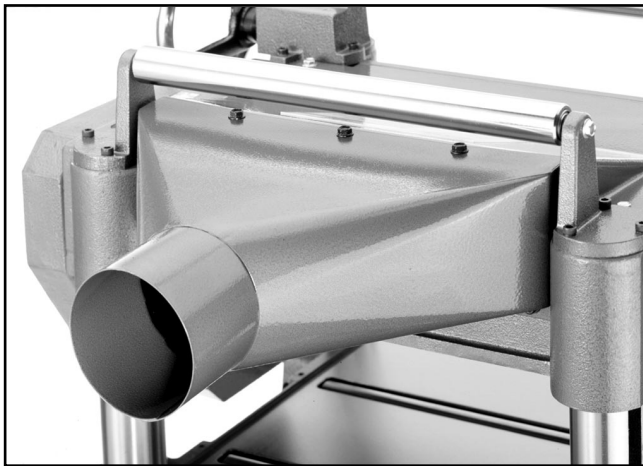

Figure 7. Dust port assembly.
2. Use three (3) M6 - 1.0 x 12mm hex bolts and nuts and lock washers to secure the dust port to the planer upper cover. **See Figure 7.** It will be necessary to reach inside the port opening with a wrench to hold the nut to tighten the hex bolts.